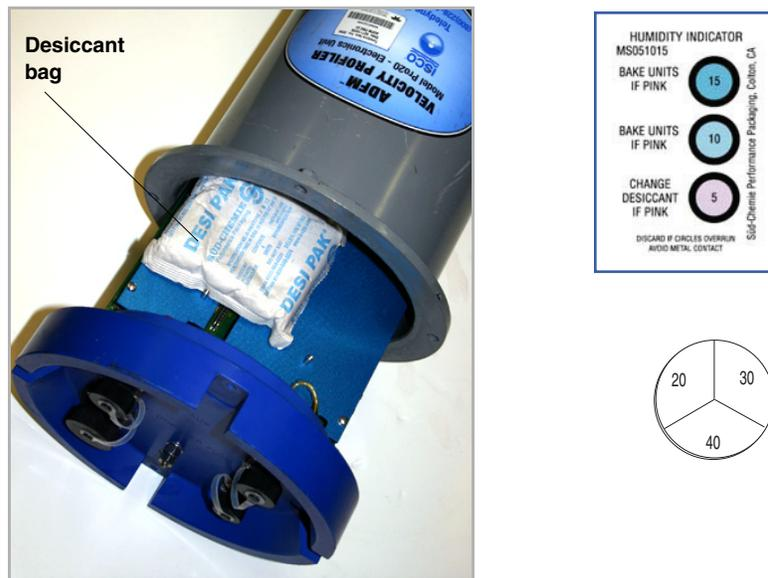

Figure 3-3 Canister case desiccant and humidity indicator card
2. The interior electronics are attached to the lid. Laying the controller on its side, very carefully ease the lid a few inches away from the case (Figure 3-3). Wiring from the battery compartment is connected to the electronics. **Do not attempt to pull the electronics all the way out of the case.**